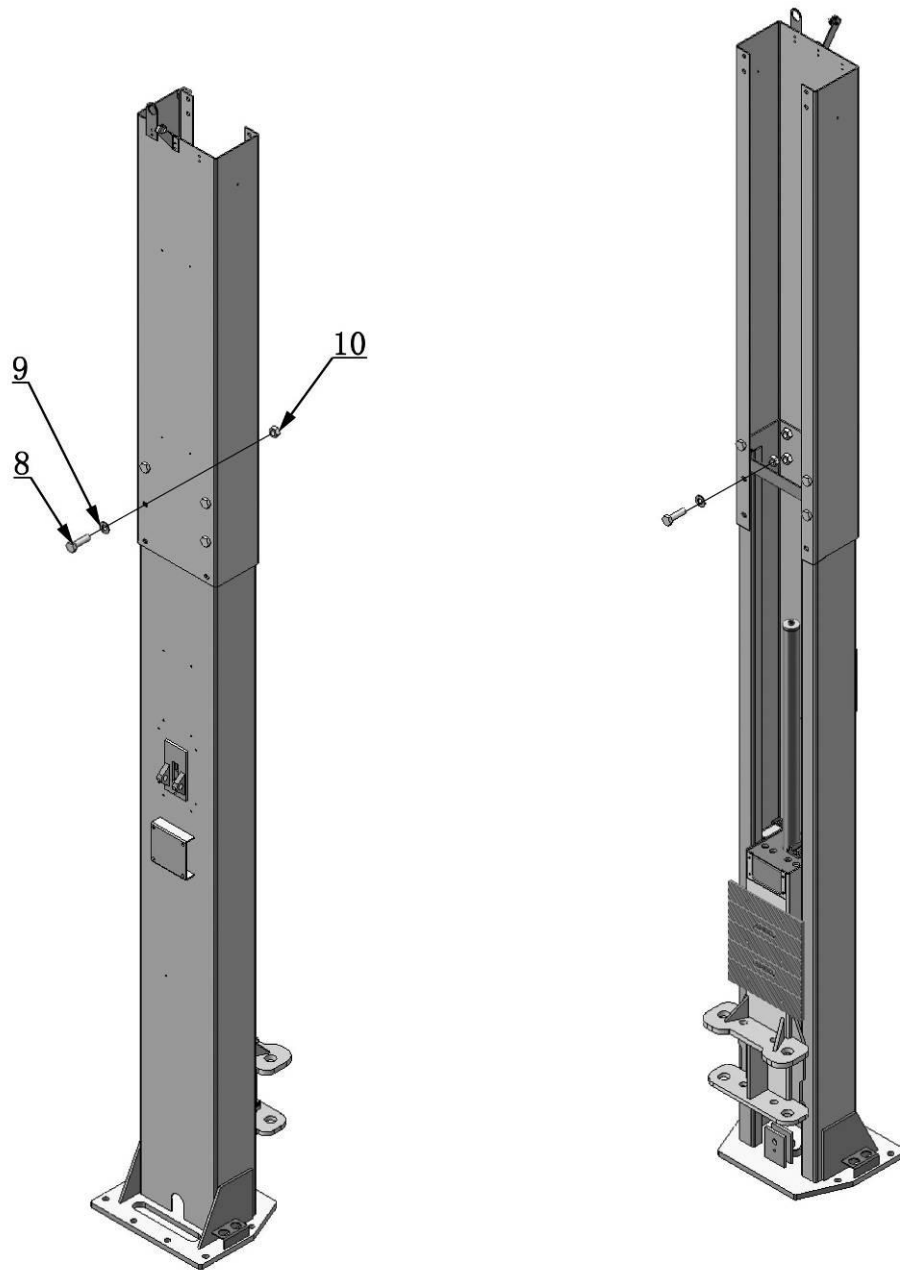

Fig. 18 Low Setting
2. When the ceiling height is less than 165-1/4", connecting the extension columns with the upper holes **(See Fig.18)**.